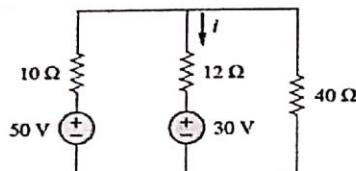

Figure 2
- a. State super position theorem and determine current through 40Ω in the circuit shown in figure 2 using super position theorem. **5M**